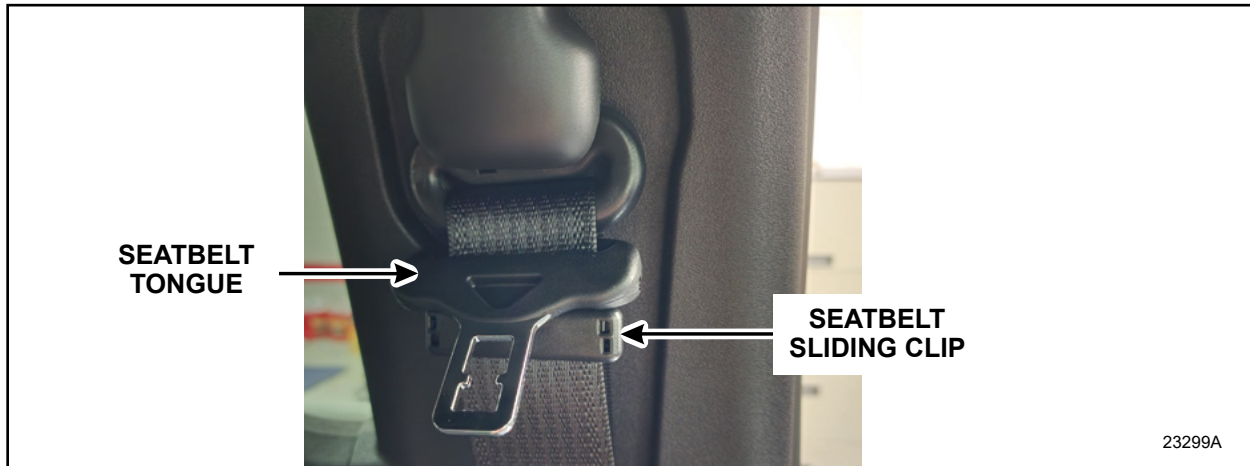

FIGURE 1
1. Take the two pieces of the clip, put them over the seatbelt webbing and snap the pieces together using your thumb and forefinger until the clip clicks into the correct position. The correct position for this sliding clip is below the seatbelt tongue and located at the highest position on the seatbelt webbing as shown in Figure 1. Install the sliding clip on the front driver and passenger side seatbelts. See Figures 1 and 2.